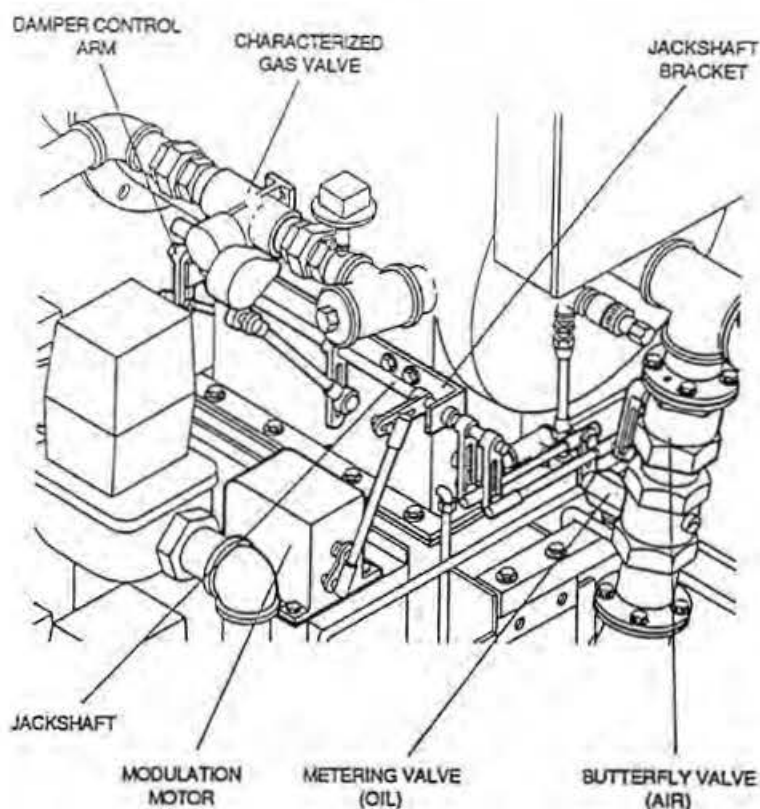

Figure 10. Typical Linkage Arrangement
2. With the flame controller in the check mode and all fuel manual valves open except the manual valve located closest to the burner (Figure 10), place the boiler ON/OFF switch in the ON position. (The ON/OFF switch is located on the side of the burner control panel).